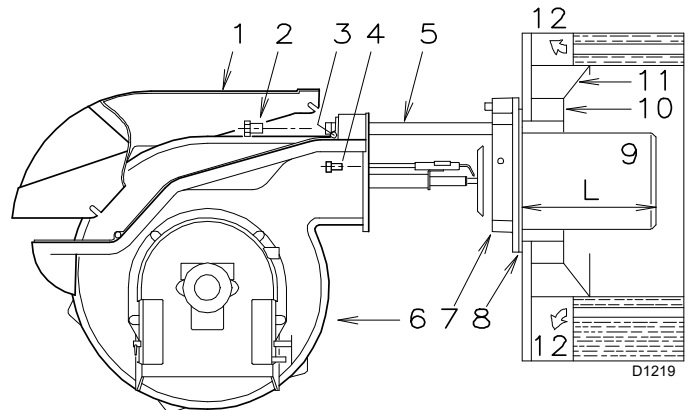

Fig. 11
For boilers having a water-cooled front the refractory fettling 10)-11)(Fig. 11) is not required unless it is expressly requested by the boiler manufacturer.
Once this operation has been carried out (if it was required), secure flange 7)(Fig. 11) to the boiler plate interposing the supplied gasket 8). Use the 4 screws provided after having protected the thread with anticruffing products.
- Retract the burner on its slide bars as shown in Fig. 11 on page 15.